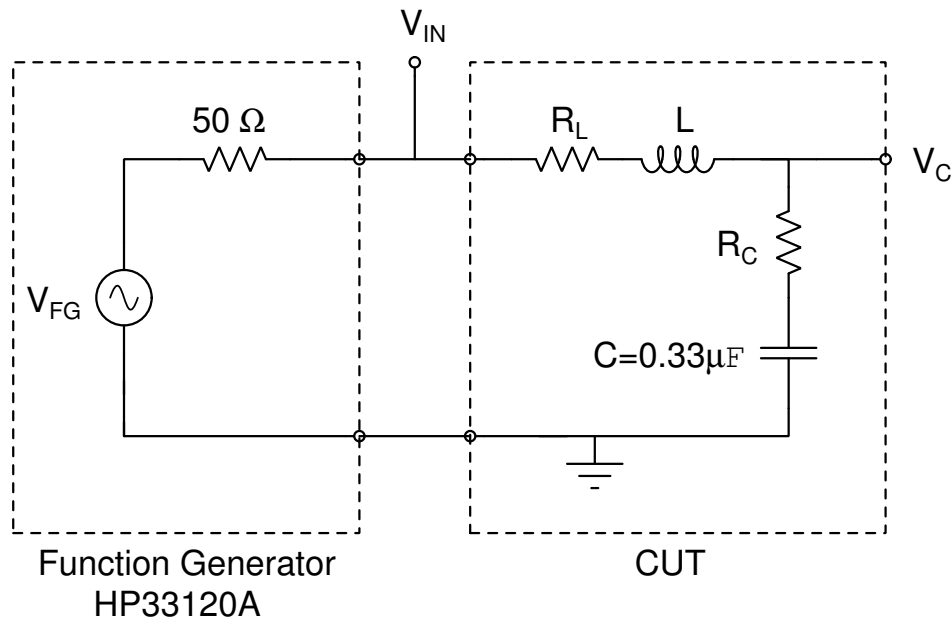

Figure 1: RLC circuit to be analyzed and measured in Lab #6.
3. Build the RLC circuit shown in Figure 1.
Analyze the RLC circuit shown in Figure 1 using actual values of the capacitor and inductor.